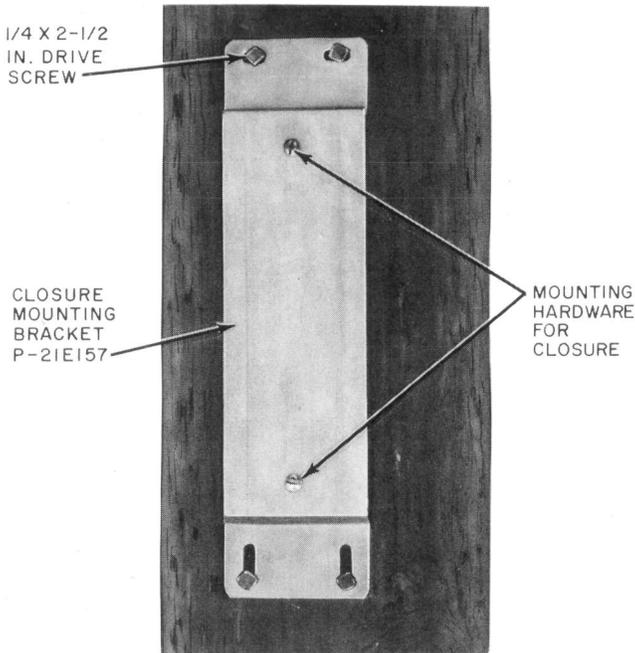

Fig. 5—Closure Mounting Bracket Installed on Pole
3.02 Install and secure the closure mounting bracket (Fig. 5) to a pole or wall. Use Table C as a guide for determining the anchoring device to use.